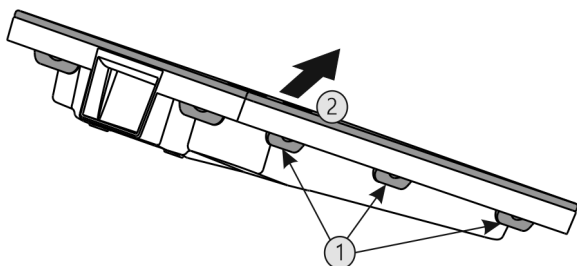

Fig. 40
- ▶ Press all lugs Fig. 40 (1) in succession and remove the lid Fig. 40 (2).